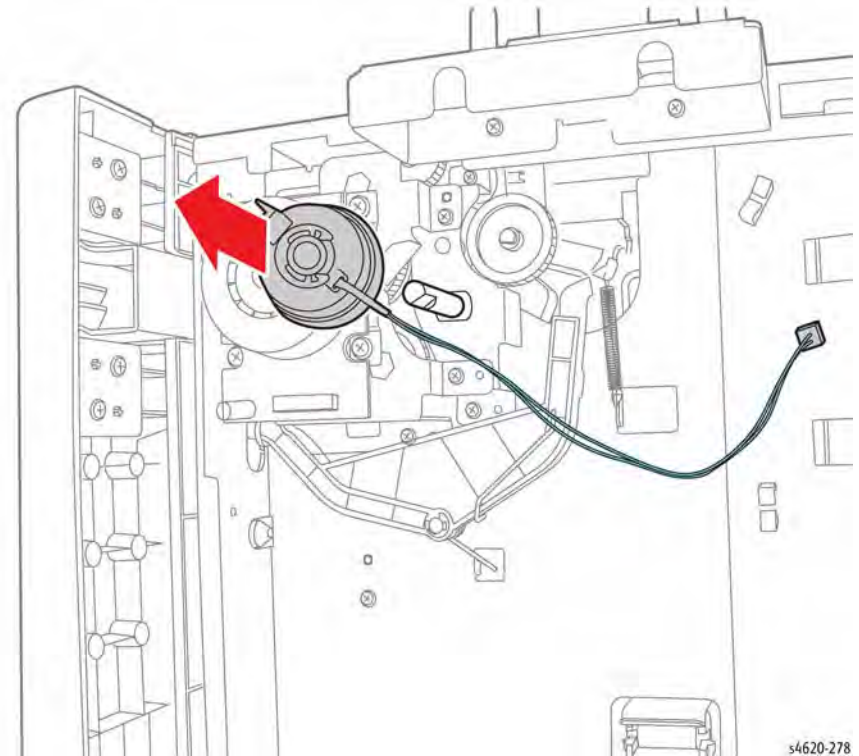

Figure 1 Remove the Feed Clutch
4. Remove the E-clip that secures the clutch to the shaft, Figure 1.